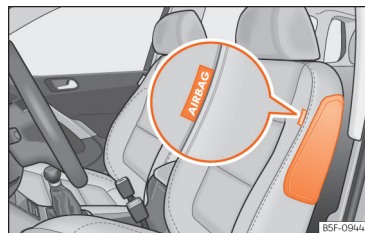
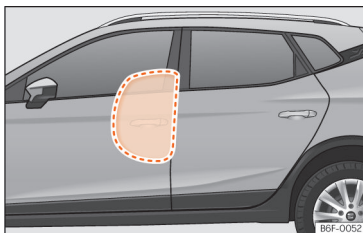

Fig. 29 Side airbag in driver's seat.
Fig. 30 Illustration of completely inflated side airbag on left side of vehicle.
The side airbags are located in the front seat backrests >>> Fig. 29 , >>> Fig. 30.
- Ensure that children are correctly seated in their seats and that their heads are not in the deployment zone of the side airbags >>> Fig. 30, as deploying airbags could hit them and cause serious injury.